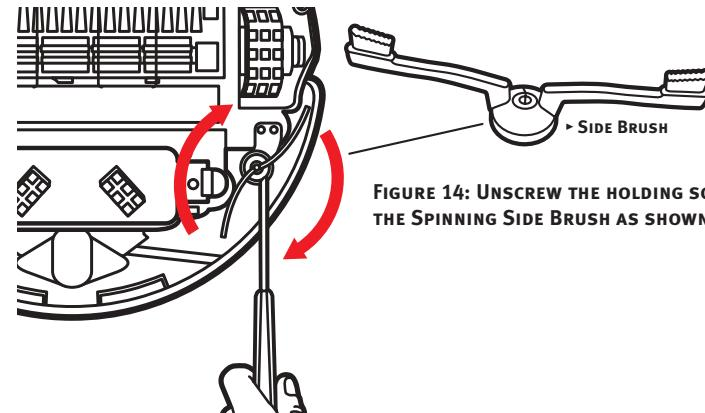

FIGURE 14: UNSCREW THE HOLDING SCREW ON THE SPINNING SIDE BRUSH AS SHOWN TO REMOVE IT.
2. Turn the Edge-Cleaning Side Brush so the Screw Head can be accessed (see Figure 14). Point the screw head towards Roomba's bumper, as shown in the image.